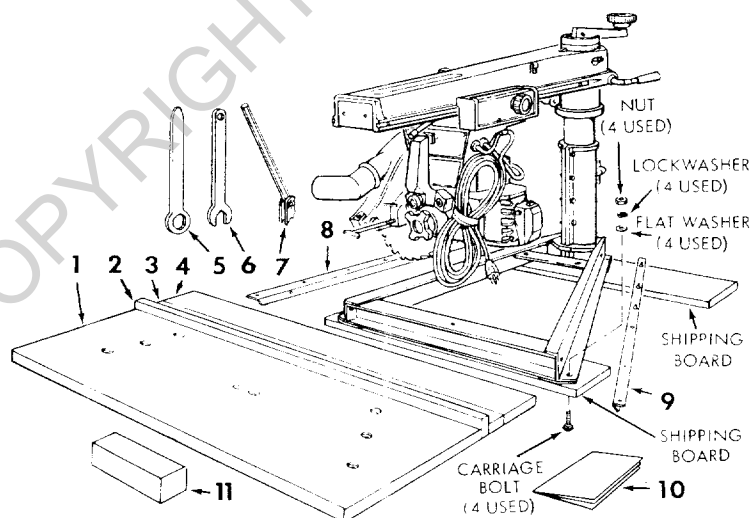

Figure 1
- This saw is shipped complete in one carton. However, in order to prevent damage during shipment and facilitate packaging, certain items are removed at the factory and must be reassembled when the saw is received by the purchaser. These "loose parts" are shown in figure 1 and listed in the following "Table of Loose Parts".
- Separate all "loose" parts from packing materials and check each item with figure 1 and "Table of
Loose Parts", making sure all items are accounted for before discarding any packing material. The four carriage bolts, nuts, flat washers and lock washers, used to secure the saw base to shipping boards (figure 1) may be retained for mounting the saw.
- After removing the two shipping boards (figure 1) place the saw assembly upright on a suitable sturdy work bench, or Craftsman Power Tool Bench.